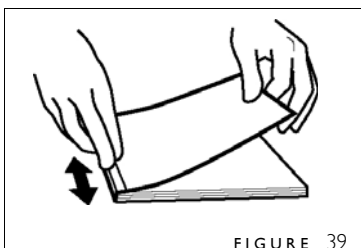

FIGURE 39
6. Tightly pull the cover against the spine. Rub back and forth, starting from the middle, to bind the back cover to the adhesive beneath it (figure 39).